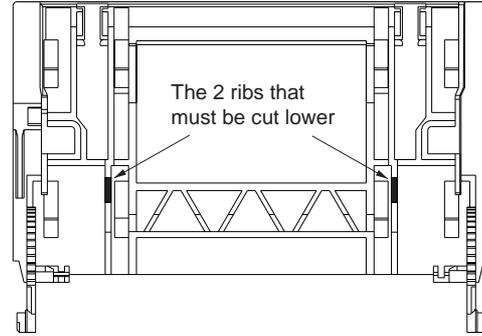

Figure 2. Location of the ribs for rework
- 1) Cutting 2 ribs (both sides) on the cassette door in order to enable a bigger rotational movement for the door during eject (see figure 2 & 3).